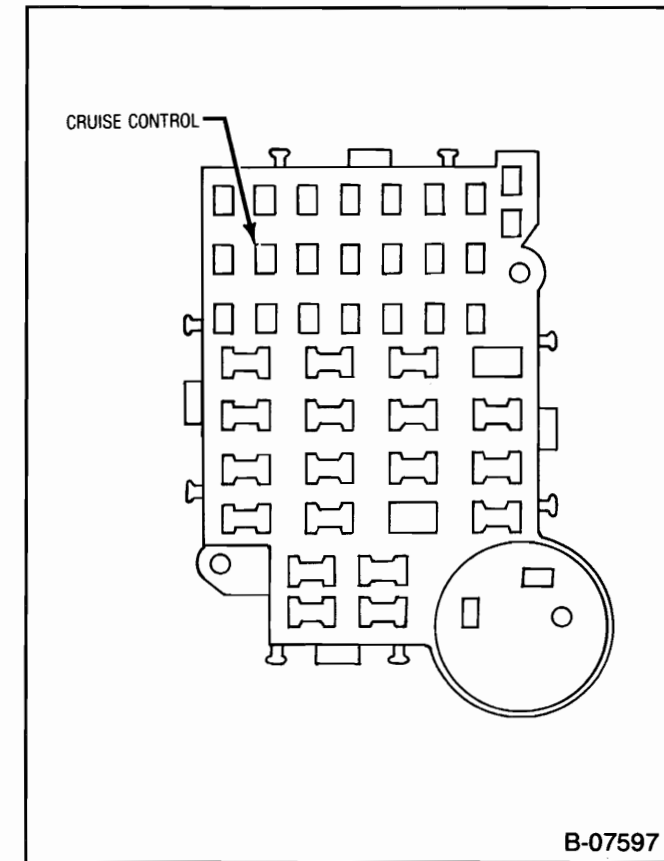

Figure 3—Fuse Block Diagram
1. Circuit 139 originates at the fuse block. Refer to figure 3.